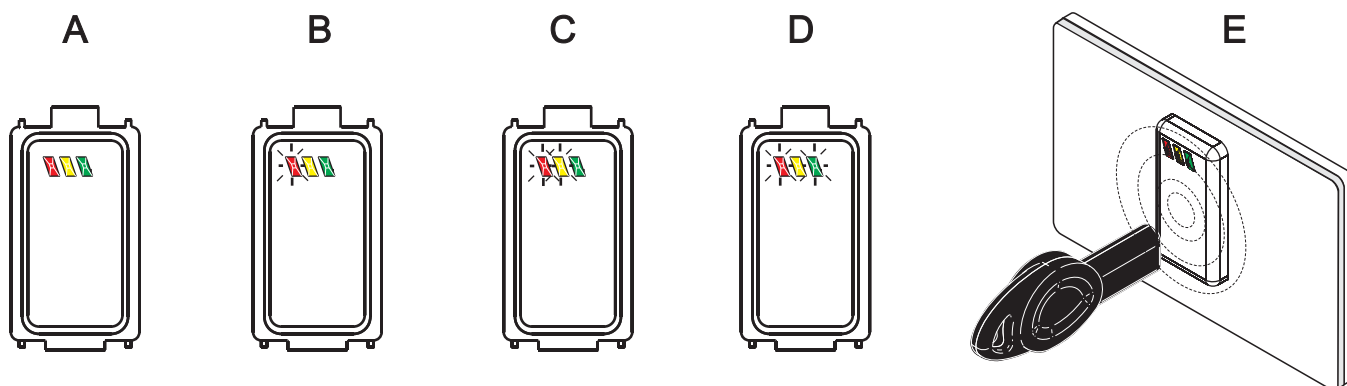

Figure 5 Disarm/Arm from ECLIPSE2 reader.
1. Hold the Key near the sensitive field of the Reader: the light indicators will light in turn (at 2 second intervals), as shown in Figure 5.